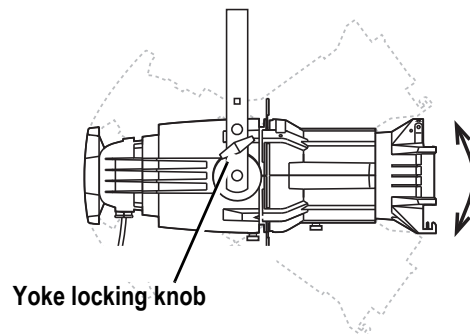

Figure 12
- Step 1: Loosen the yoke locking knobs (see Figure 12). **Do not** remove them.